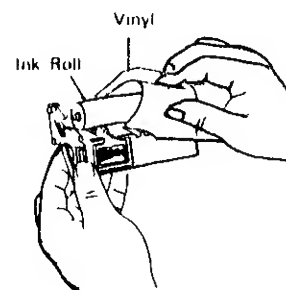

Fig. 12
- 3) Remove the ink roll (see Fig. 12). When removing it, wear a vinyl glove or cover the ink roll with a strip of vinyl sheet to avoid contact with the hands.